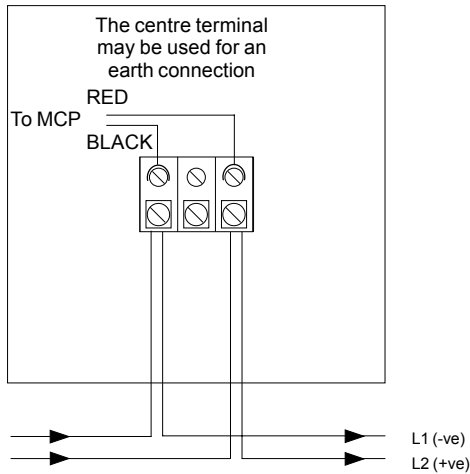

Fig 1 Flush Mount Connection Diagram
2. Run the cables from the Discovery loop into the box and connect to the terminal tray as shown in Fig 1. Ensure that earth continuity is maintained.
6. Connect all loop cables, as shown in Fig. 1, and secondary switch cables as required and secure the call point to the terminal tray.